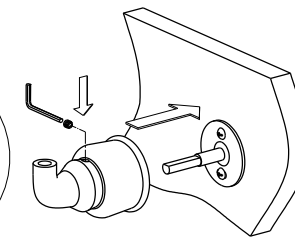

Fig. 6
- Step 6. Place the base onto the mounting plate and use the allen wrench to tighten the slotted screw to hold it in place (fig 6).